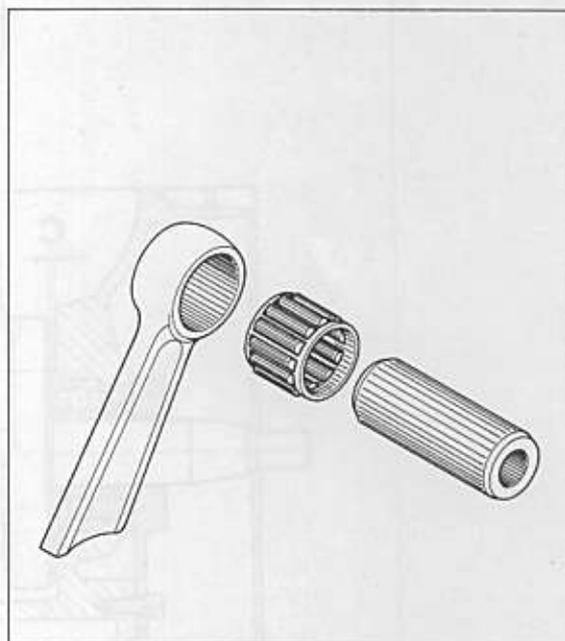

Fig. 33
- on a 80 cc engine with a needle bearing the clearance check is carried out by inserting the gudgeon (Fig. 33).
- Sui motori con 80 cm3 sullo spinotto viene montato il cuscinetto come mostrato in Fig. 33.